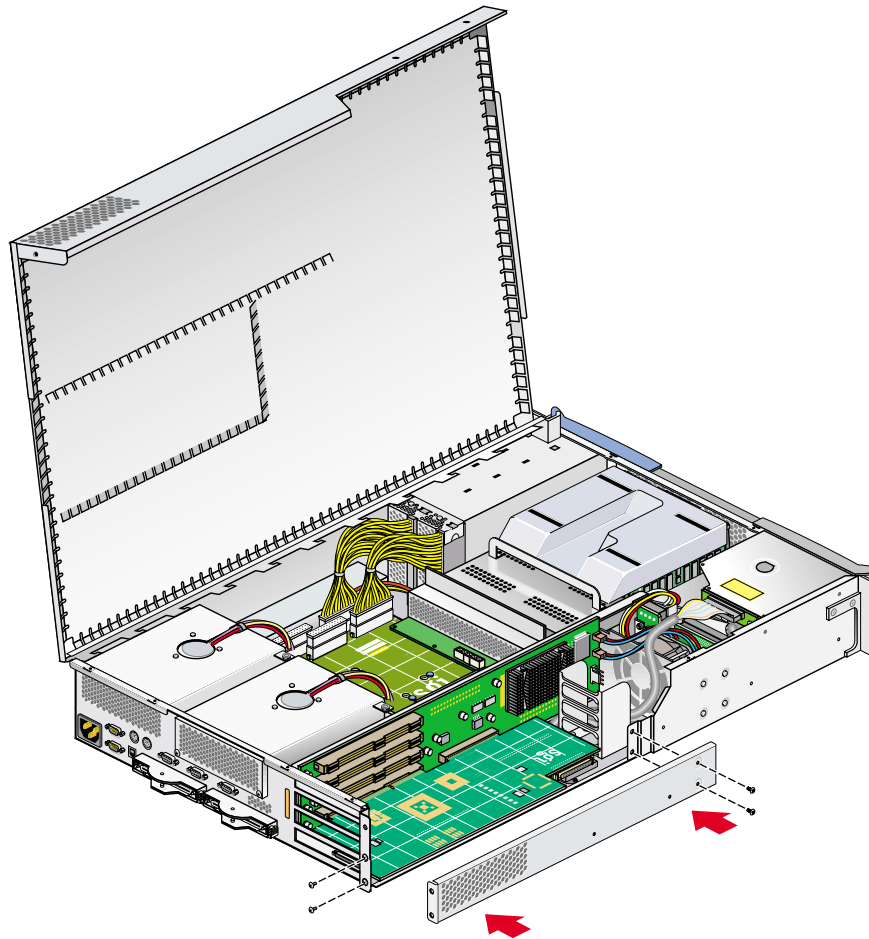

Figure 6-15 Replacing the Lower PCI/PCI-X Support Bracket
12. If you have removed a card from one of the two bottom-most card slots, replace the lower PCI/PCI-X support bracket that covers the two bottom-most slots, and screw in the four Phillips screws, as shown in Figure 6-15.